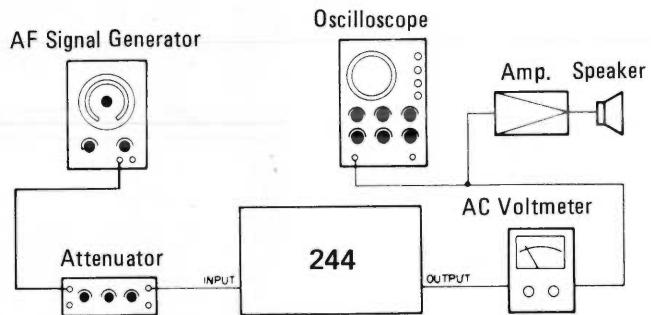

Fig. 4-6-3
- 1) Connect the test equipments as shown in Fig. 4-6-3. Connect an AF oscillator to the PGM BUSS IN "1" jack and a level meter to the TAPE OUT "1" jack. Adjust PGM MASTER fader until the PGM OUT level of -10 dBV is obtained as mentioned under steps 1 and 2 in the item 4-5-2.
- 3) Place the RECORD FUNCTION switch in the TRK "1" position to set the TRK "1" to the record mode. Also set the dbx to out position and the tape speed to HIGH. Under this condition, the VU meter will show OVU. If the meter deflection error is observed, perform readjustment as shown in the item 4-5-2.
- 1) Connect test equipments as shown in Fig. 4-6-3, and adjust PGM MASTER fader on the front panel so that -10 dBV is obtained at the PGM OUT jack as mentioned in the item 4-5-2 (steps 1 and 2).
- 1) Connect the test equipments as shown in Fig. 4-6-3 and adjust PGM MASTER fader so that -10dBV is obtained at the PGM OUT jack as mentioned under the item 4-5-2 (steps 1 and 2).